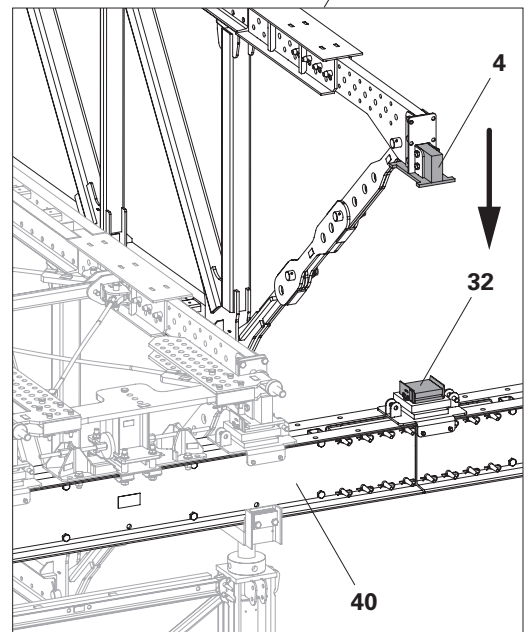

Fig. C2.01a
5. Slowly lower the single truss and place the bearing frames (4) on the longitudinal bearings (32). (Fig. C2.01a)